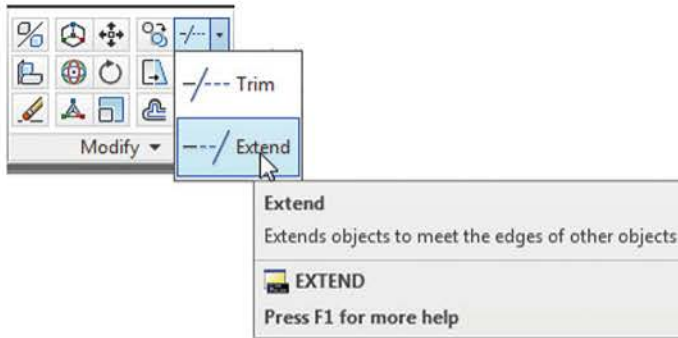

Fig. 6.35 The Extend tool icon from the Home/Modify panel
2. Call **Extend** – either *click* the **Extend** tool icon in the **Home/Modify** panel (Fig. 6.35), *pick* **Extend** from the **Modify** drop-down menu, or *enter* `ex` or `extend` at the keyboard. The command sequence then shows: